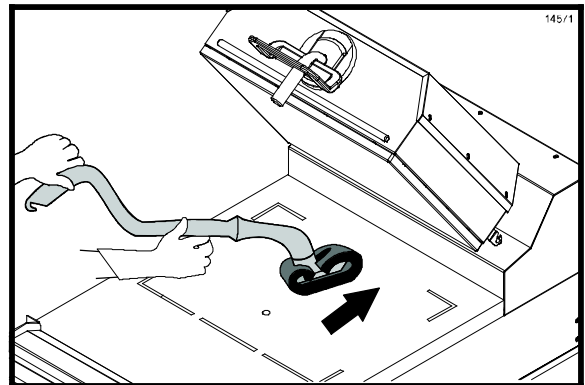

Figure 34
25. Using the cleaning pad holder, lightly scrub the lower grill surface until all soil has been liquified by the grill cleaner. For stubborn soils, apply additional grill cleaner and lightly scrub. (See Figure 34.)